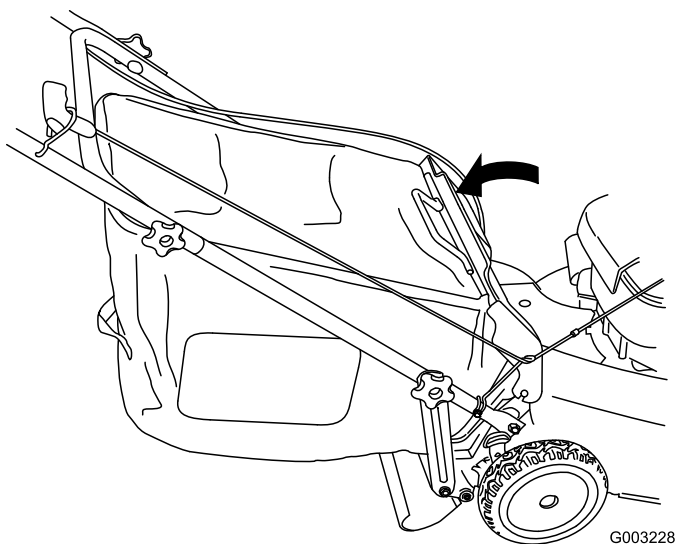

Figure 25
5. Lower the rear door (Figure 25).